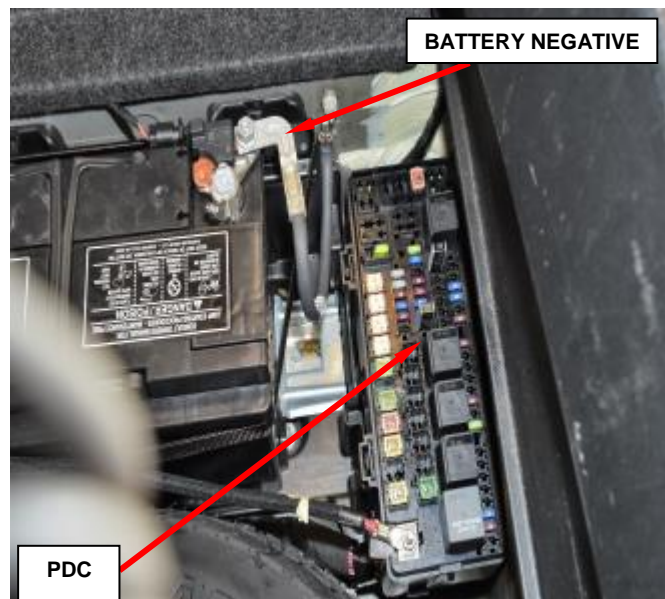

Figure 34 – Battery Negative
1. Disconnect and isolate the battery negative cable then remove the two Airbag Module fuses from the Power Distribution Center (PDC), see the PDC cover for the fuse locations. Wait two minutes for the system capacitor to discharge before further service (Figure 34).